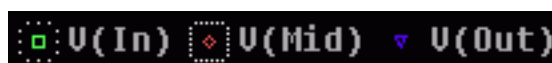

Figure 2-12 Trace legend with V(Mid) symbol outlined.
- a. Right-click the trace legend part (diamond) for V(Mid) to associate the second cursor with the Mid waveform. The crosshair pattern for the second cursor outlines the V(Mid) trace part as shown in Figure 2-12.